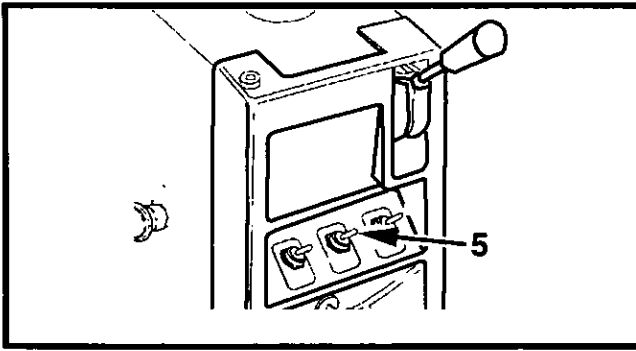

Figure 5-11 Water Control Switch
2. Switch on the water control switch (5, Figure 5-11) to start the electric water pump.